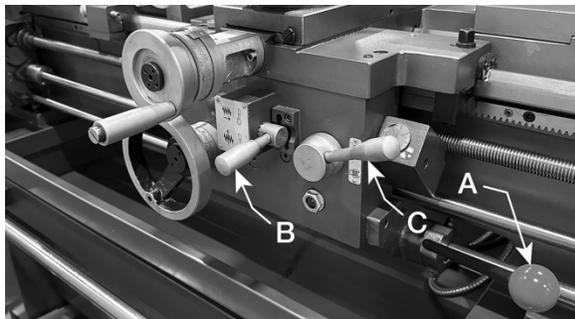

Figure 13-3
1. Move the forward/reverse selector (A, Figure 13-3) up or down depending on desired direction.
5. Push Feed Axis Selector Lever (B, Figure 13-3) to the left and down to engage crossfeed. Push lever to the right and up to engage longitudinal feed.
Push Feed Axis Selector Lever (B, Figure 13-3) to the left and down to engage crossfeed. Pull lever to the right and up to engage longitudinal feed.
3. Make sure the feed axis selector (B, Figure 13-3) is disengaged (neutral position) before engaging the half nut engagement lever. There is an interlock mechanism between the auto-feeding and the thread-cutting half-nut engagement.
4. If cutting Imperial threads, read the threading dial indicator and engage the half nut engagement lever (C, Figure 13-3) by moving it downward. It will engage with the leadscrew to obtain the longitudinal travel of carriage (the